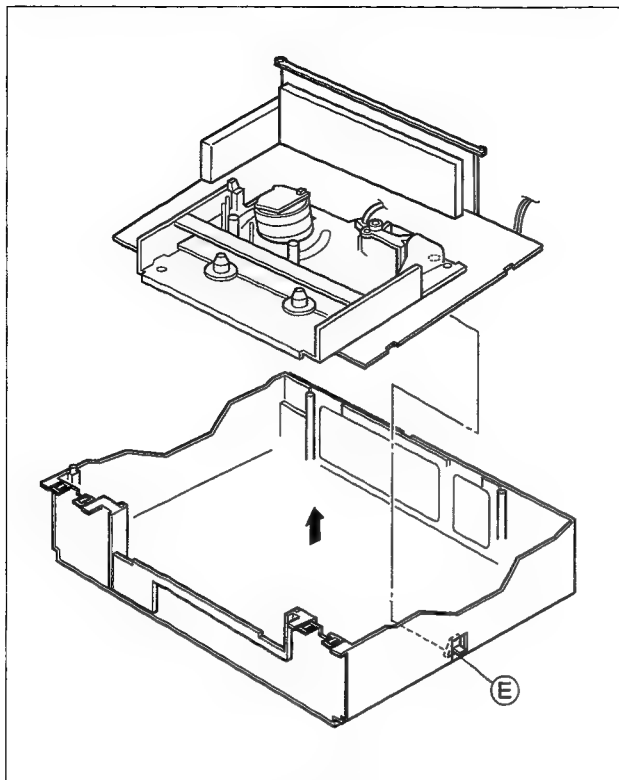

Fig. 1-4-2
- (6) Remove the hook (E) while holding the edge of the Main board, and remove the Main board and Main deck assemblies together. At this stage be careful of the power cord and prongs of the jacks on the back side (See Fig. 1-4-2).